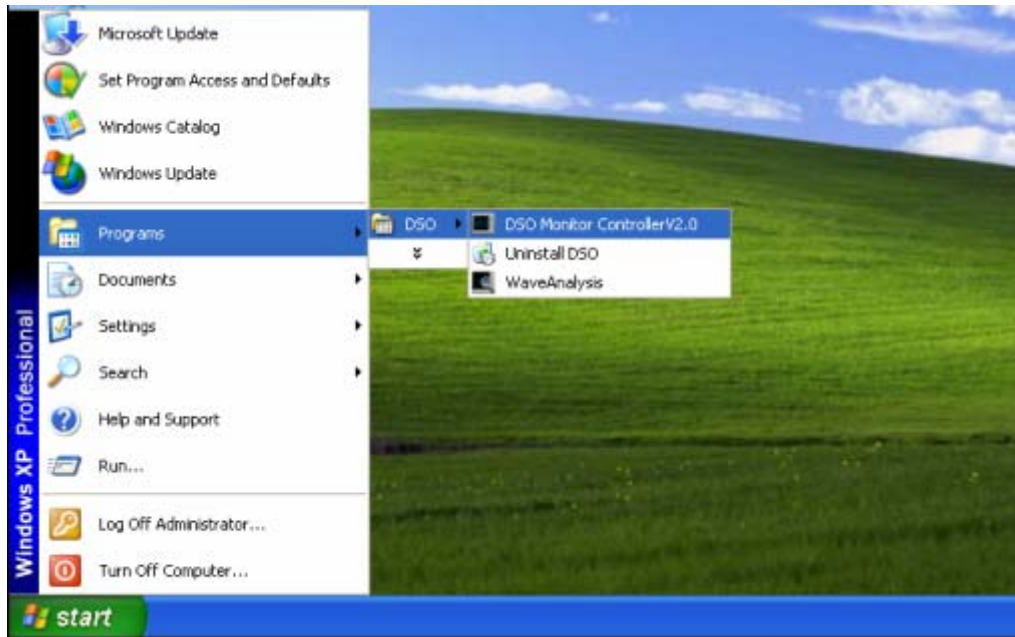

Fig.4-2
2. The software can also be started by clicking Start, Program, DSO, and Waveform Analysis in order. See Fig.4-2.